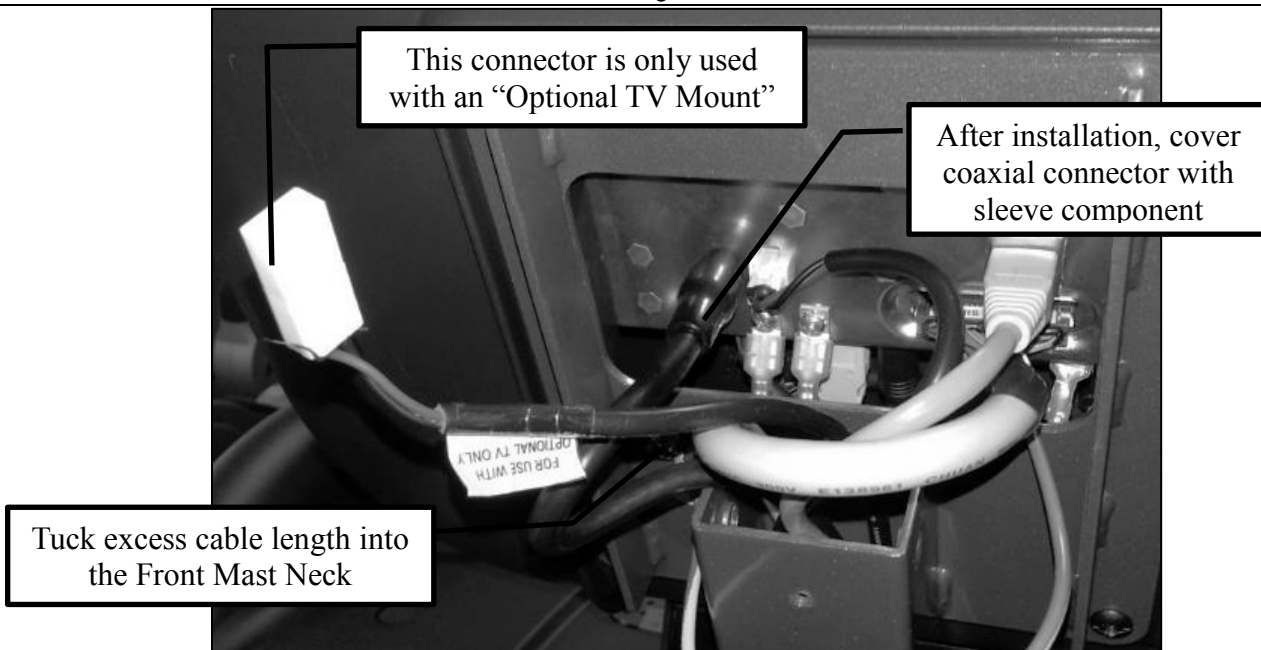

Figure 26
- Review connections for 9" TFT & Orange LED Console options. Figure 26